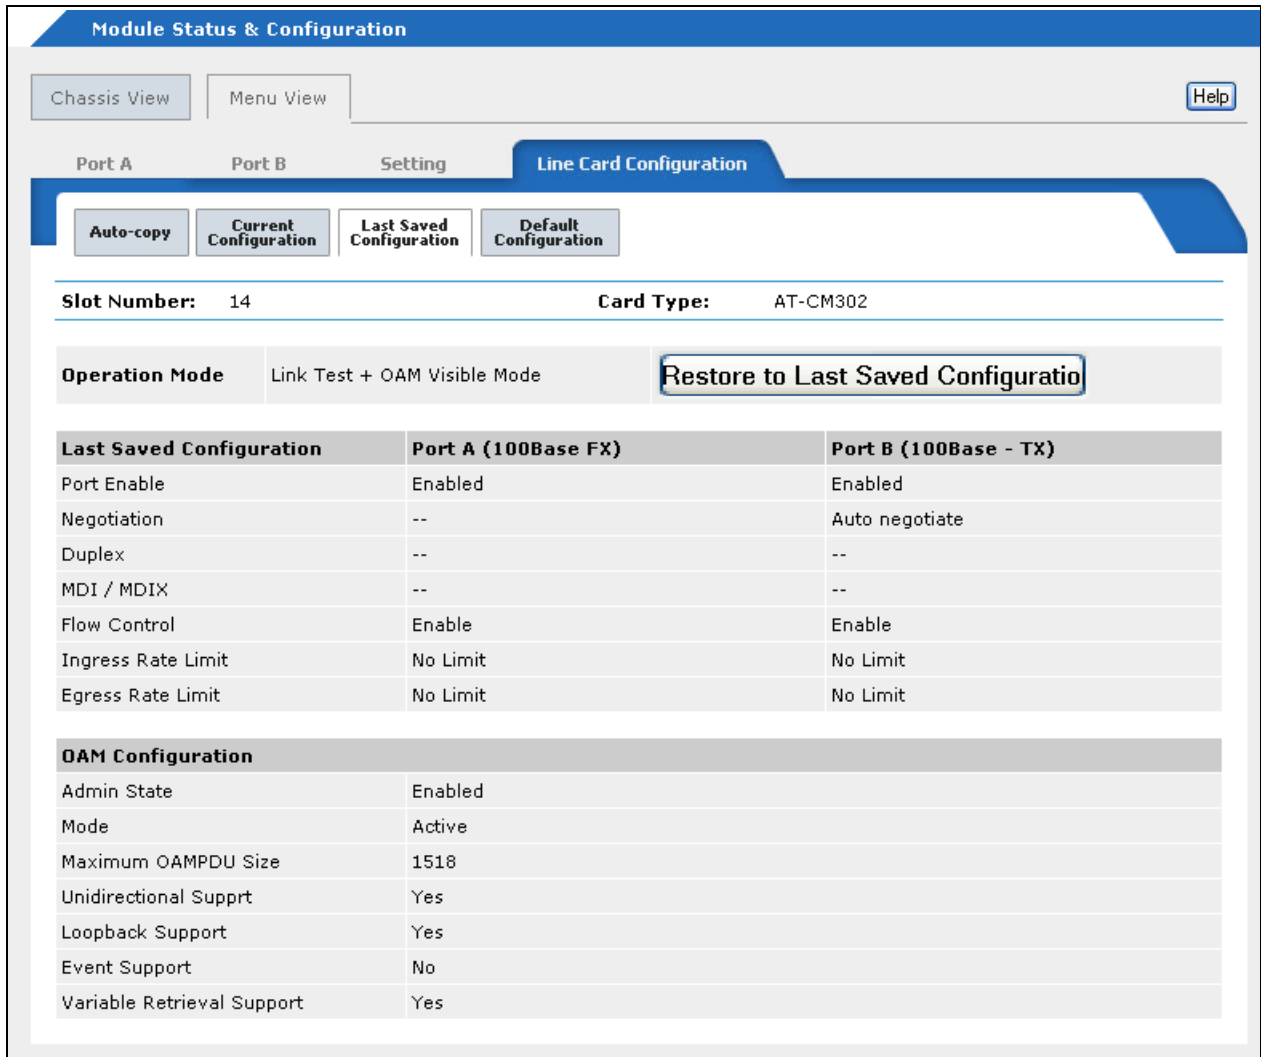

Figure 82. Last Saved Configuration Tab
4. To restore the previous configuration to the line card, select the **Last Saved Configuration** tab, shown in Figure 82.